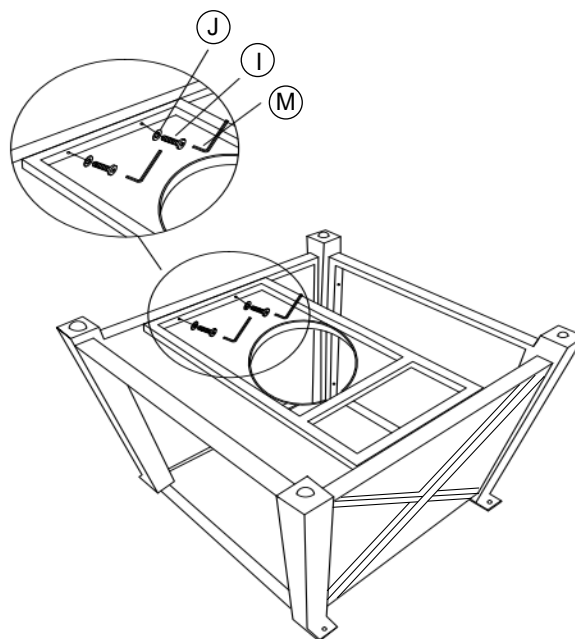

Figure 2
2. Attach the gas cylinder holder (G) to the left side (c) and right side(D) with 4 bolts M6*35mm (I) and 4 flat washer (J) by using the allen wrench (M) ,(see figure2).